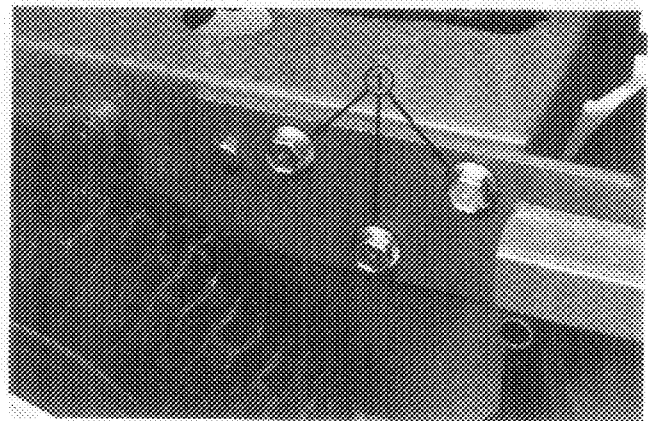

Figure 2
1. Align carrier frame mounting holes with mounting holes in traction frame. Secure each side with three flange screws and locknuts. (Fig. 2). Torque fasteners to 60-80 ft-lb. (81-109 N·m).